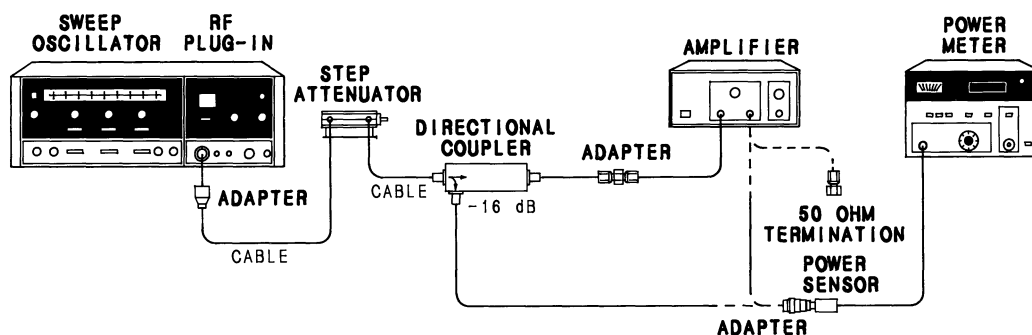

Figure 4-4. Small Signal Gain Test Setup
3. Connect the equipment as shown in Figure 4-4.